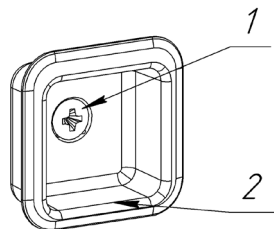

Fig. 28.
1. Unscrew the screw (No. 1, Fig. 28);
2. Turn the cam adjuster (No. 2, Fig. 28) to one of the four positions;
3. Tighten the screw (No. 1, Fig. 28) again.